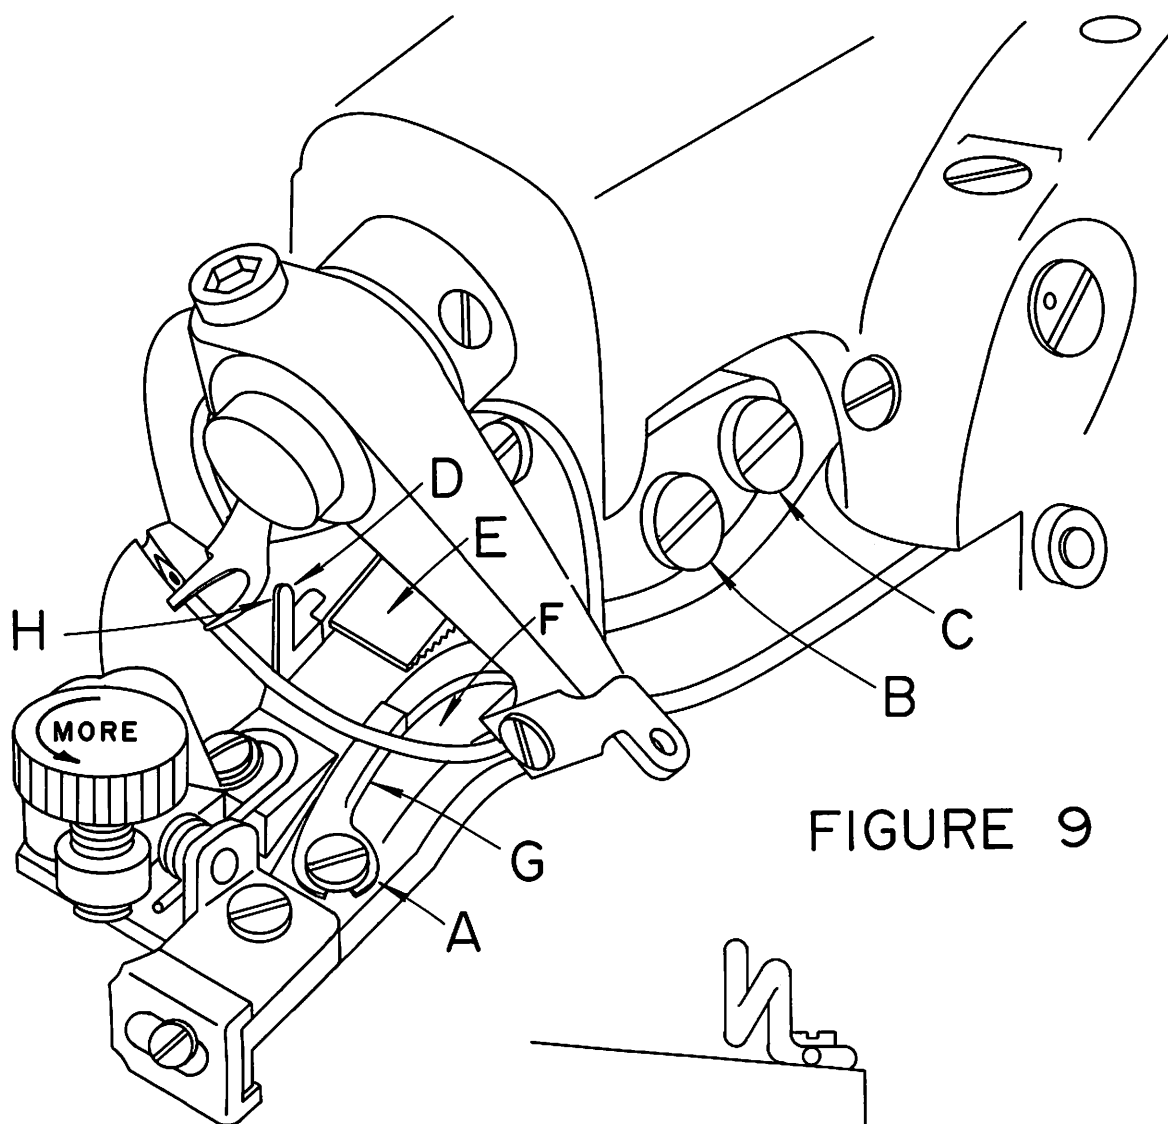
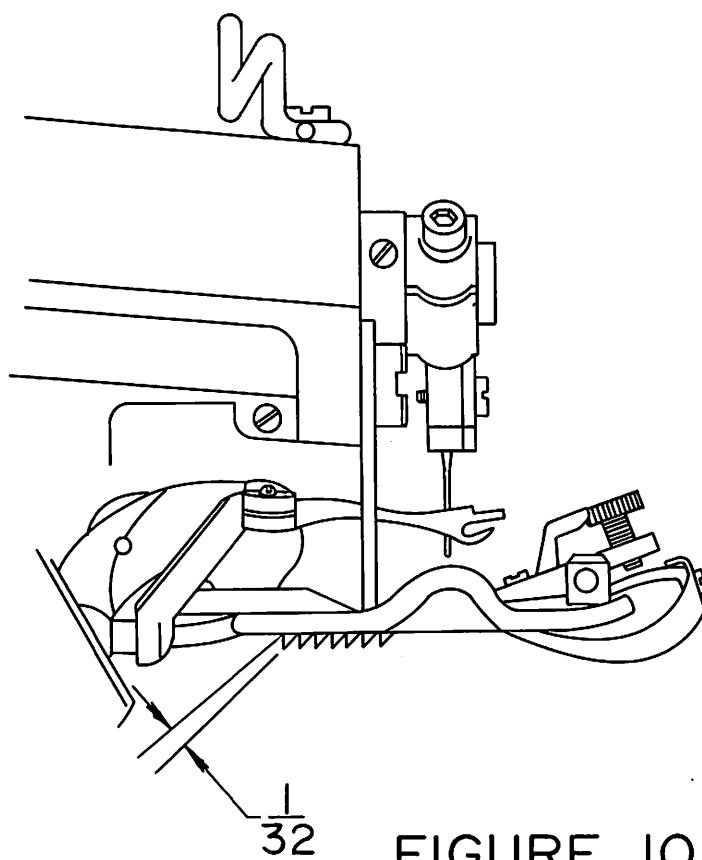

FIGURE 9
FIGURE 10
1. After considerable service, it may be expected that the wearing action of the needle will cause a sharp edged groove to form on the needle guide (Item "G" in Figure 9). This condition can cause thread breakage and uneven penetration. When this happens the guide should be replaced. The needle guide was specifically designed as a readily replaceable wear plate to prevent damage to the presser-foot from the action of the needle.
2. Loosen the needle guide attaching screw (Item "A" in Figure 9) and remove the worn needle guide. Clear out any lint or dirt that may have accumulated under the old guide and insert the new guide. Insure that the new guide is seated flush with the top and side of the presser-foot and then retighten the attaching screw. Slowly turn the handwheel in the direction away from the operator and check to insure that the new guide fits properly under the needle and that no interference has been introduced between the guide and the looper.
1. In the event that the machine develops difficulty by failing to properly feed the work, a worn feeder is frequently found to be the cause. After considerable service, especially with certain hard fabrics, the feeder teeth have a tendency to become dull, and the feeder should be replaced. In order to remove the old feeder, remove the front feeder attaching screw (Item "B" in Figure 9) and loosen the rear feeder attaching screw (Item "C" in Figure 9). The old feeder may then be slid out of place. Insert the new feeder under the rear screw and replace the front screw.
2. Before tightening the attaching screws, check to see that the feeder is set to the proper depth. Referring to Figure 10, this should be approximately  $1/32"$  (.795MM) below and parallel to the bottom of the presserfoot for all light and medium weight fabrics. For heavy fabrics, the setting should be approximately  $1/16"$  (1.59 MM) below and parallel to the bottom of the presserfoot. These dimensions are intended as guides and may be modified as required by the specific fabrics. Once the proper depth is established, rotate the handwheel slowly in a direction away from the operator and check to insure that the feeder clears the looper (see Figure 9, Point "H") and also clears both sides of the feeder slot in the presserfoot. Firmly tighten feeder attaching screws (Figure 9, Items "B" and "C") before resuming sewing.